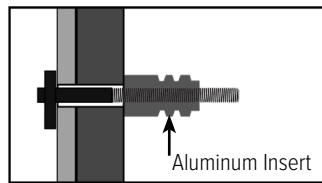

Figure 4.1.3
4.1.3 Thread the 3/4" aluminum insert onto the T-bolt as shown in Figure 4.1.3.